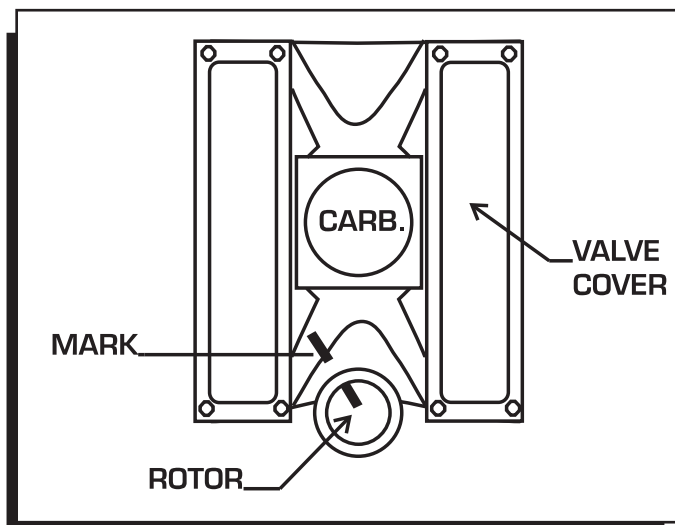

Figure 8 Marking the Rotor Location.
2. With the cap off, crank the engine until the rotor is aimed at a fixed point on the engine or firewall. Note this position by making a mark (Figure 8).